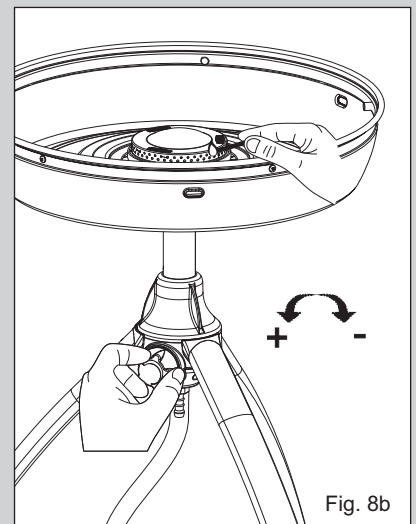

Fig. 8b
(See Fig. 8b)
- To light the appliance, light a match or barbecue lighter. Open up the Control valve slightly (K) as described under 'General' and light the appliance Burner (G). When starting cold, the appliance may be lit from the top (See Fig.8b) prior to fitting the desired cooking surface onto the Burner Pan (F).